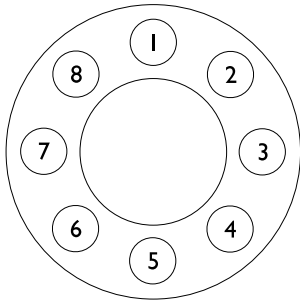

Figure 10
2. Move in a circular pattern to the next set screw (see Figure 10) and repeat step 1.
7. Tighten the set screws in the circular pattern shown in Figure 10 to 108 in/lbs (9 ft/lbs) for a 5000 lb carriage and 37 ft/lbs for a 10,000 lb carriage.